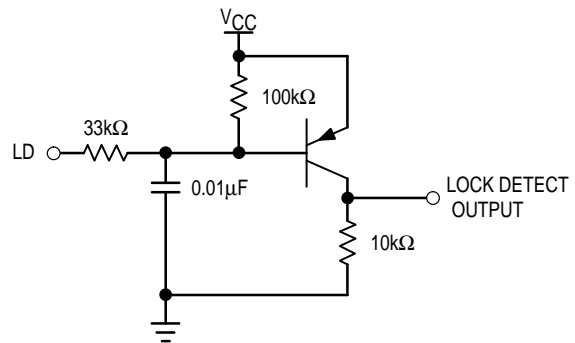

Figure 9. Typical Lock Detect Circuit
The Lock Detect (LD) output pin provides a LOW pulse when fr and fp are not equal in phase or frequency. The output is normally HIGH. LD is designed to be the logical NORing of the phase frequency detector’s outputs UP and DOWN. See Figure 6. In typical applications the output signal drives external circuitry which provides a steady LOW signal when the loop is locked. See Figure 9.